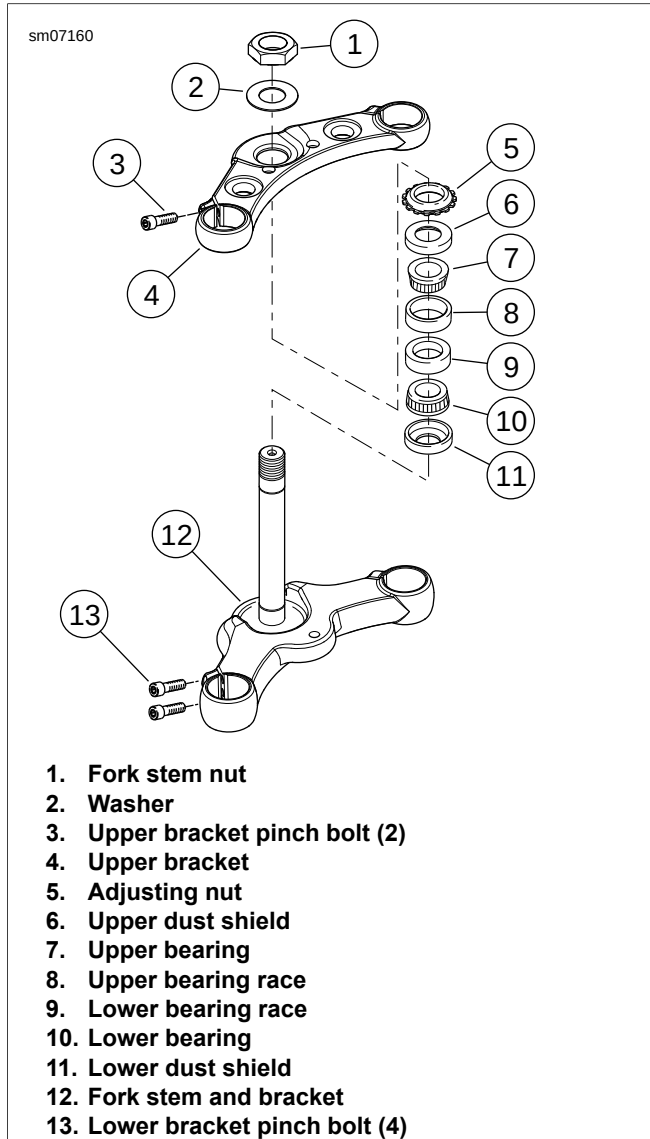
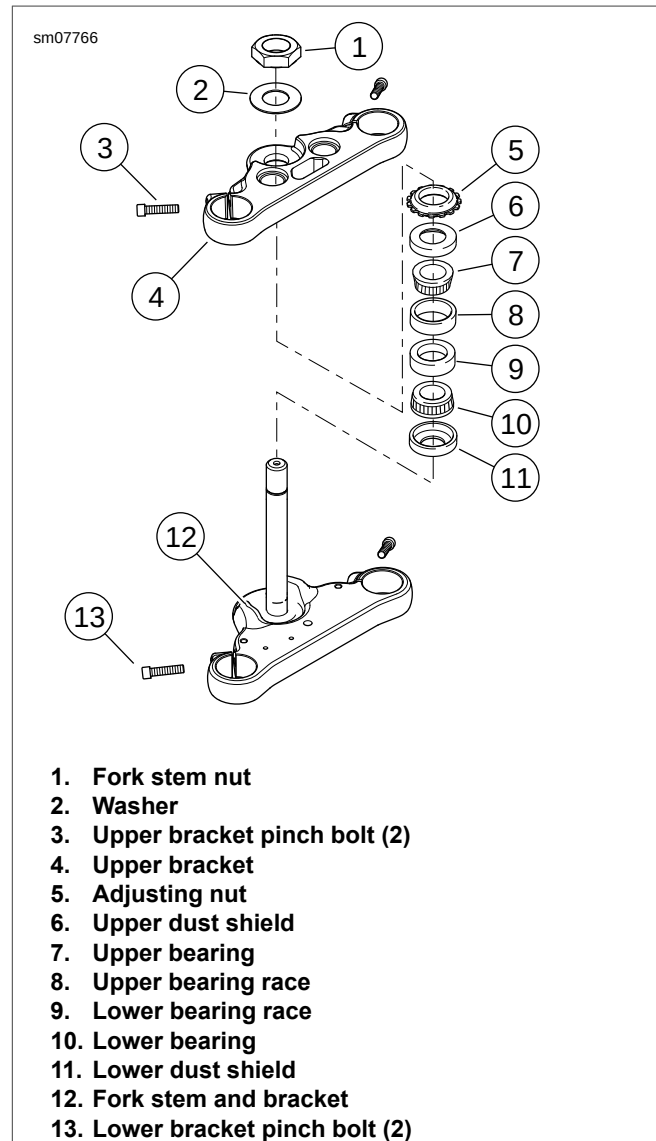

Figure 2-78. Steering Head: FXS
Figure 2-79. Steering Head: FXSB
3. See Figure 2-78 or Figure 2-79. Remove the brake hose bracket from the bottom of the fork stem and bracket (12).
6. Remove the fork stem nut (1) with the handlebars and upper bracket (4) as an assembly.
7. Remove the adjusting nut (5) and pull the fork stem and bracket out of the steering head.
8. Remove the upper dust shield (6) and upper bearing (7) from steering head.
1. See Figure 2-78 and Figure 2-79. Insert the fork stem bracket assembly (12) (with lower dust shield and bearing) into the frame steering head and install the upper bearing (7) and dust shield (6). Secure with the adjusting nut (5).
2. Install the upper bracket (4), washer (2), and fork stem nut (1).